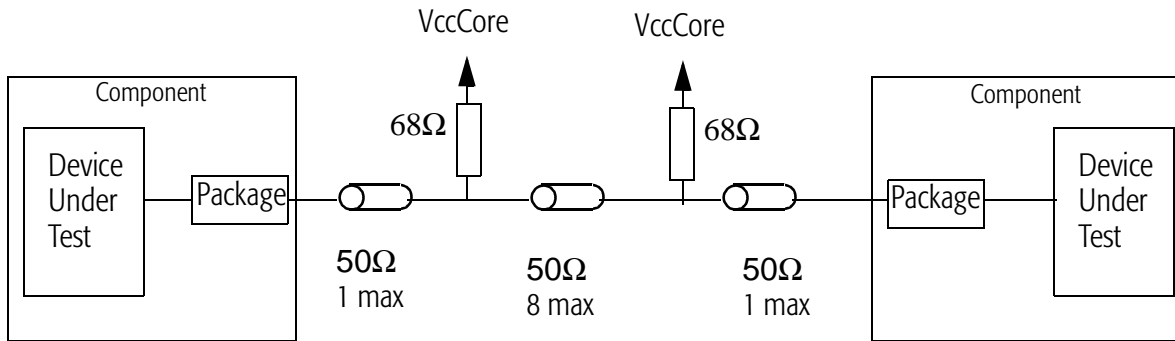

Figure 8. Test Circuit
– Test Circuit used—See Figure 8 on page 31.